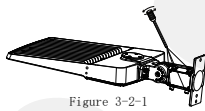

Figure 3-2-1
Step 1: Loosen the 4 screws on the bracket with a screwdriver and make sure that the bracket can fit into the light pole, Figure 3-2-1;